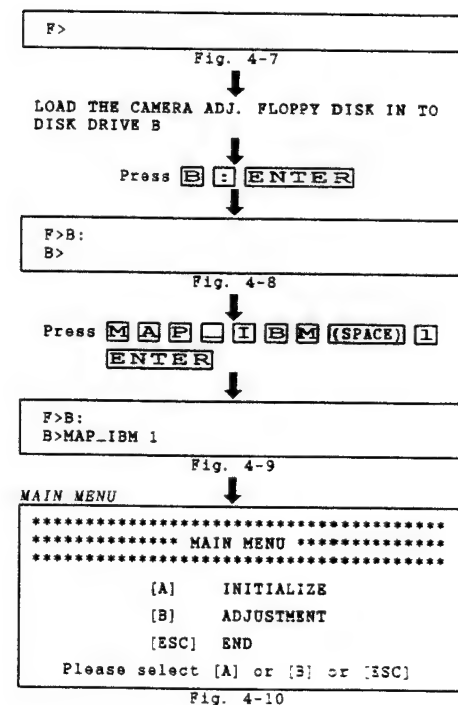

Fig. 4-10
3) Press **MAP** **[]** **IBM** **(SPACE)** **1** then **ENTER** (MAP and IBM may be small letters). The digital adjustment program (MAP: Manual Adjustment Program) starts and the MAIN MENU shown Fig. 4-10 appears. (Figs. 4-9, 4-10)